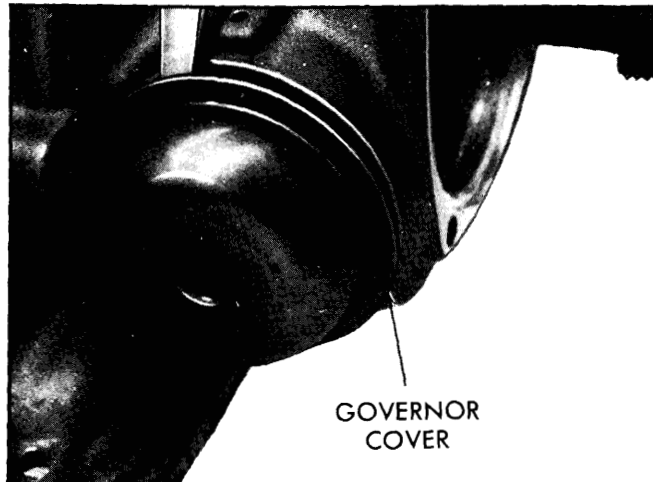

Fig. 7-13—Removing Governor Cover
7. Using a screwdriver and hammer, gently tap along governor cover lip (Fig. 7-13), remove governor cover and "O" ring seal. (Fig. 7-14) Discard Seal.